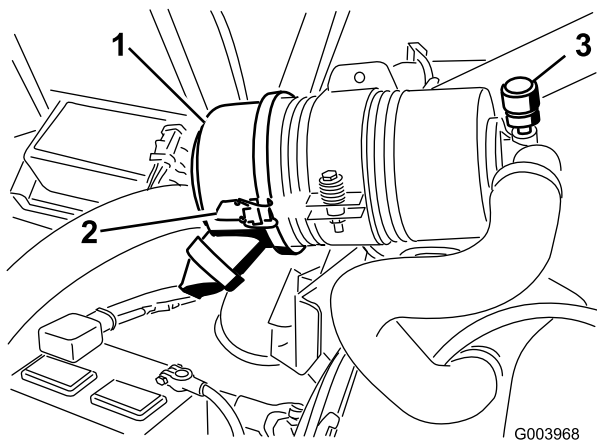

Figure 38
Service the air cleaner filter only when the service indicator (Figure 38) requires it. Changing the air filter before it is necessary only increases the chance of dirt entering the engine when the filter is removed.
1. Release the latches securing the air cleaner cover to the air cleaner body (Figure 38).